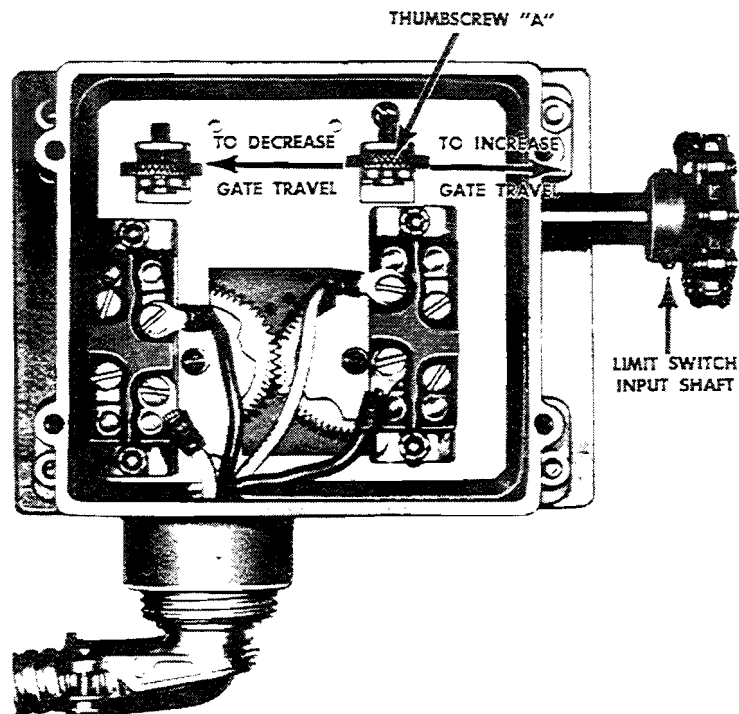
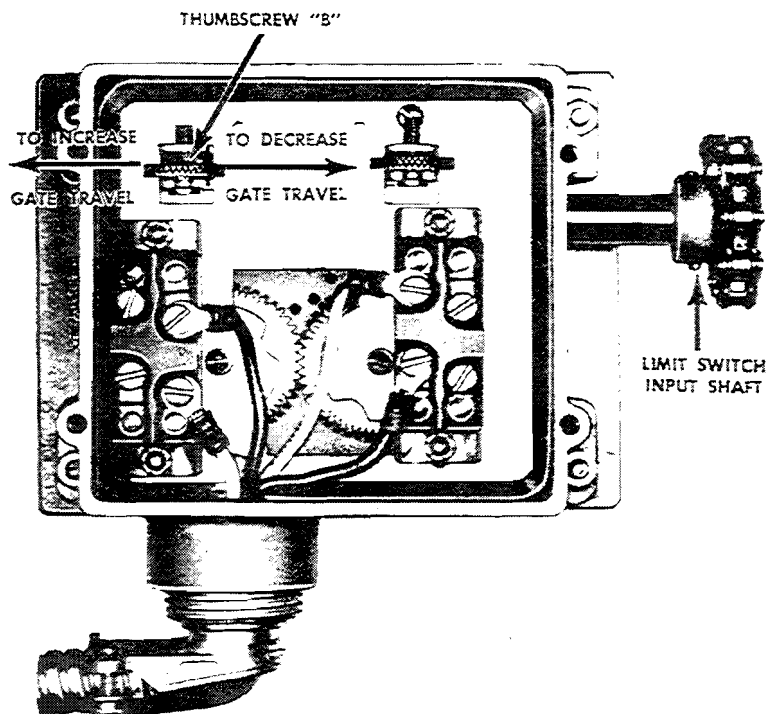

Figure 17.
Figure 18.
(3) See Figure 17. Rotate the thumbscrew "A" in a direction toward the limit switch input shaft. A complete turn of the thumbscrew will increase the gate travel by approximately six inches.
(4) Connect the electrical power supply to the electric gate operator.
(5) With the controls provided, operate the gate so it slides to the left. You will note that the limit switch will stop the gate short of its intended full travel position.
(6) DISCONNECT THE ELECTRICAL POWER SUPPLY TO THE ELECTRIC GATE OPERATOR.
(7) See Figure 18. Rotate the thumbscrew "B" in a direction away from the limit switch input shaft. A complete turn of the thumbscrew will increase the gate travel by six inches.
(8) Connect the electrical power supply to the electric gate operator.